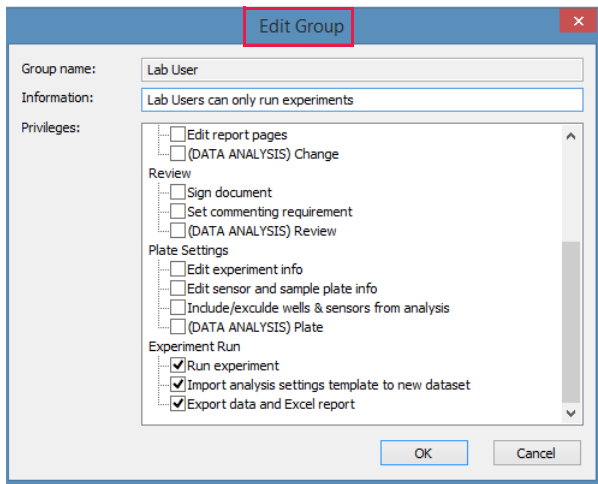

Figure C-15: Edit Group Dialog Box
2. Select **Edit Group** to display the Edit Group dialog box (Figure C-15).